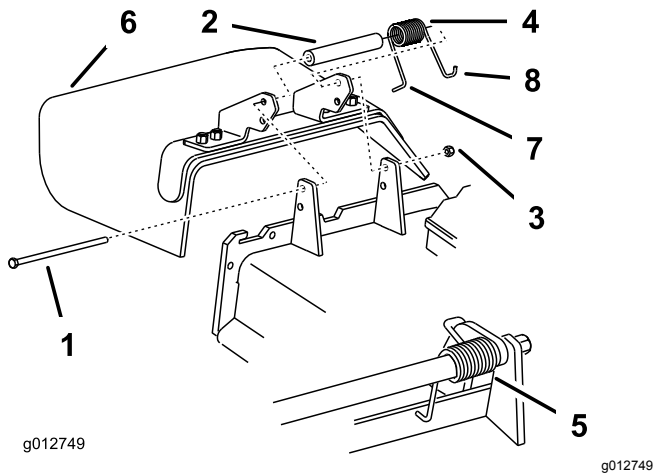

Figure 60
3. Remove the locknut, bolt, spring, and spacer securing the deflector to the pivot brackets (Figure 60).
5. Place the L-end of spring behind deck edge (Figure 60).
Note: Ensure that the L-end of the spring is installed behind the deck edge before installing the bolt as shown in Figure 60.
7. Place the J-hook end of the spring around the grass deflector (Figure 60).